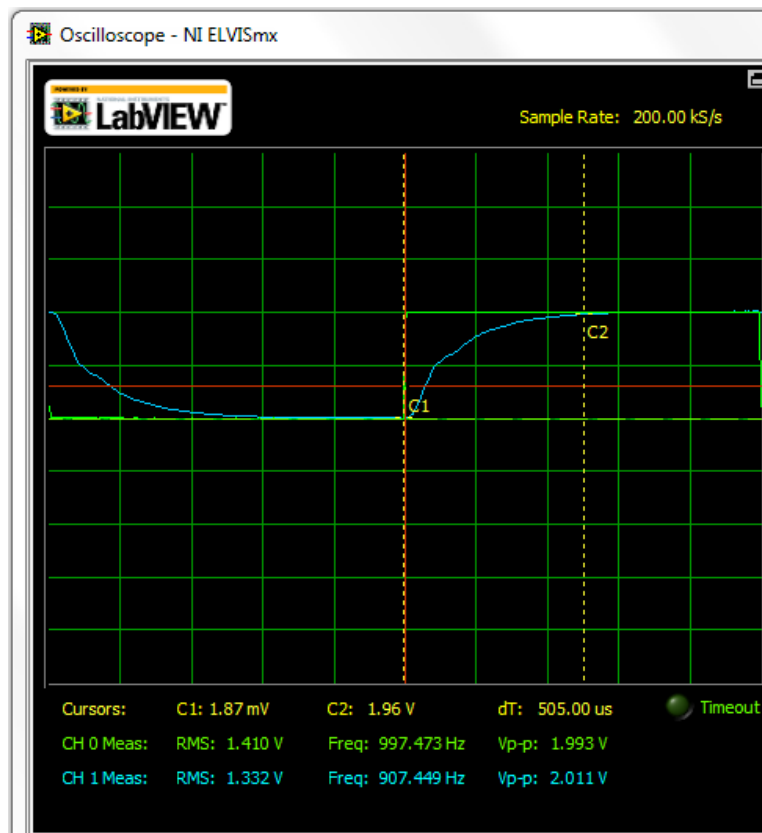

Figure 20: Closed loop step response of a second order plant
4. Adjust the system so there is **no overshoot** and the settling time is less than approximately **500 μs** as shown in Figure 20. You may have to adjust the time scale and frequency of the signal generator to get a good picture. Be sure your system has reached steady state (it's flat on the top!). You should include a screen shot of the system output in your memo.